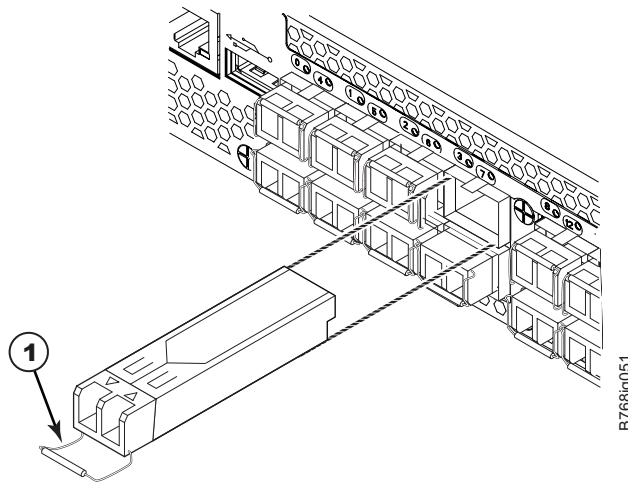

Figure 39. Removing and replacing an SFP+ optical transceiver with a wire bail
2. Using the hooked end of the tool, pull the bail (wire handle) **1** away from its pivot point and out, sliding the transceiver out of the port (Figure 39).
2. For SFPs and SFP+ transceivers with wire bails, make sure that the bail (wire handle) is in the unlocked position. Align the optical transceiver so that the key is oriented correctly to the port (Figure 39). Insert the transceiver into the port until it is firmly seated and the latching mechanism clicks, and then close the bail.